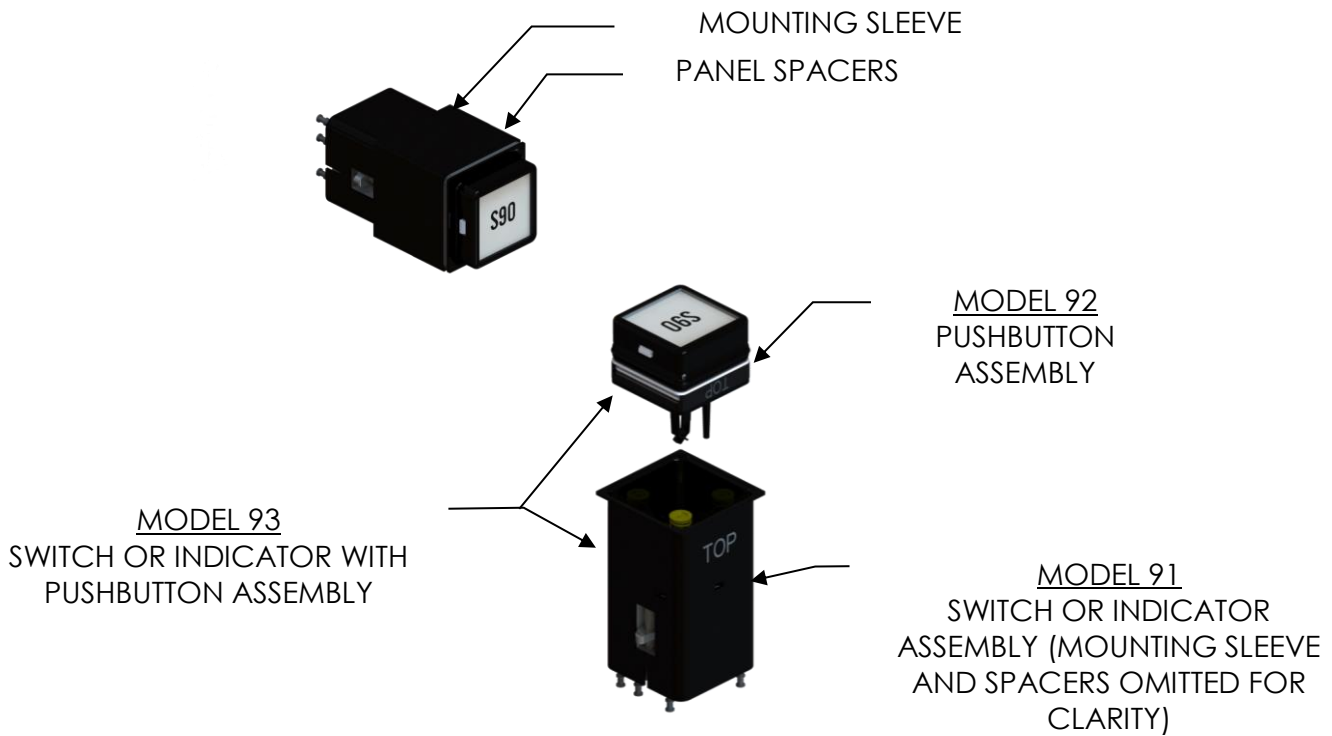

Figure 4: Model 93 "Coded" – Solder Version Shown
- Model 93 "Coded" Model 91 switch/indicator assemblies with standard pushbuttons installed (Figure 4: Model 93 "Coded" – Solder Version Shown).